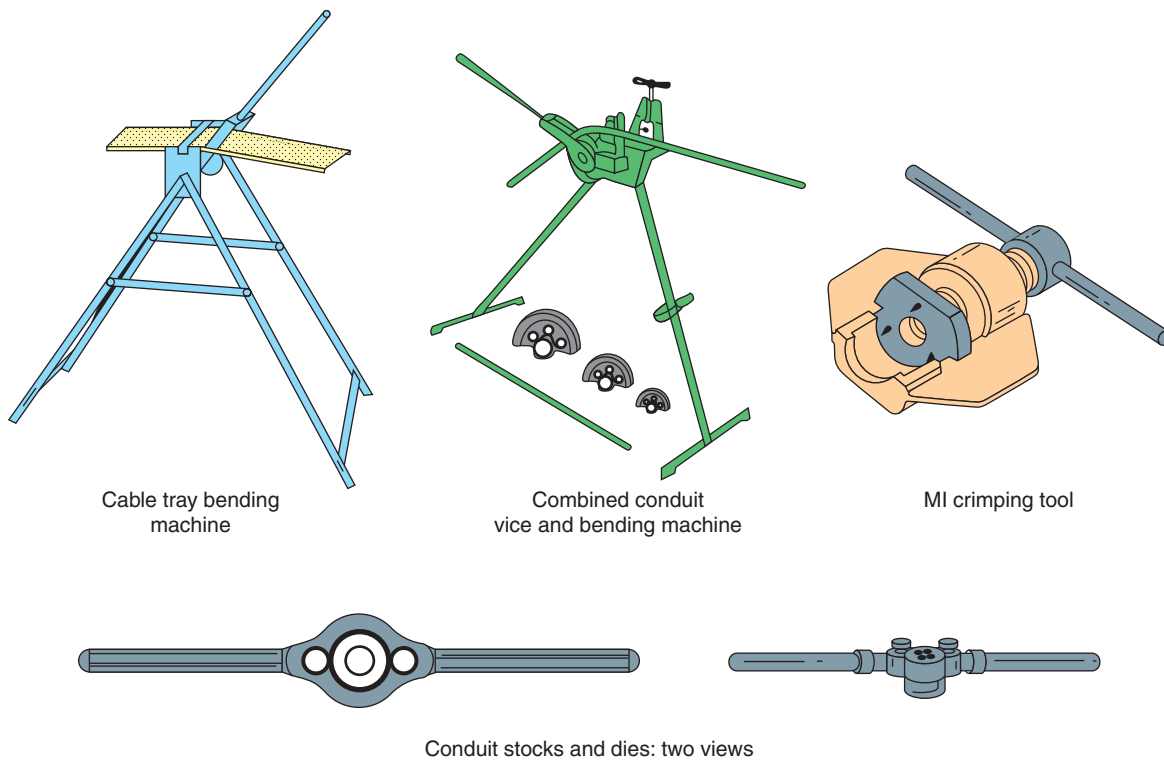

Figure 4.7 Some special tools required by an electrician engaged in industrial installations.
Where special tools are required, for example, those required to terminate mineral insulated (MI) cables or the bending and cutting tools for conduit and cable trays, as shown in Fig. 4.7, they will often be provided by an employer, but most hand tools are provided by the electrician.